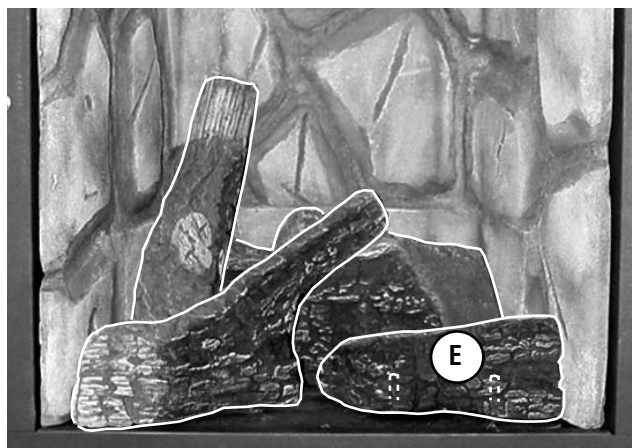

Figure 45 - Install Right Front Log (E)
4. **Place the right front log (E) as shown in Figure 45.** Position the hole on the bottom of log E over pins #4 and #5.